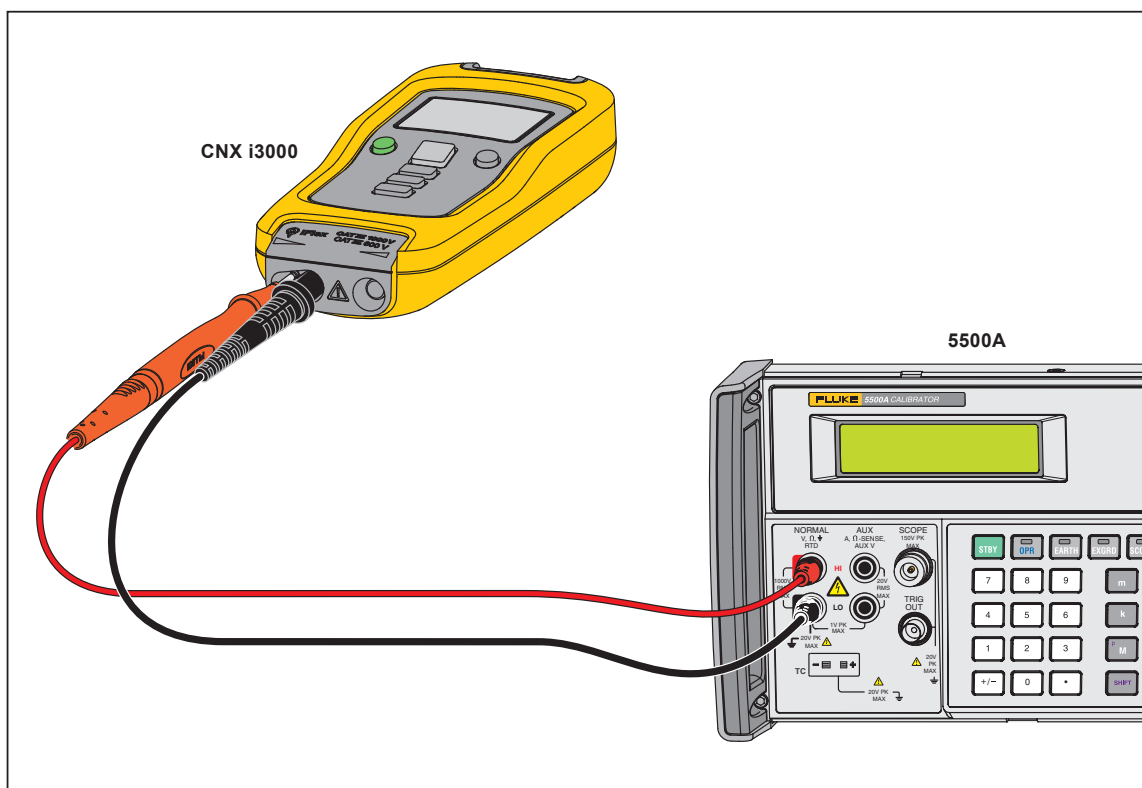

Figure 2. Performance Test Connections for Simulated Voltages
*For some steps, voltage is used to simulate current and different connections are necessary. See Figures 2 and 3.*
*While the calibration adjustment points are shown in Table 4, the Product also can show the necessary inputs. For each step, push **LOG** to see the necessary ac reference signal amplitude and then push **INRUSH** to see the necessary frequency input. For this calibration adjustment, volts are used in place of current. Use the connections shown in Figure 2.*